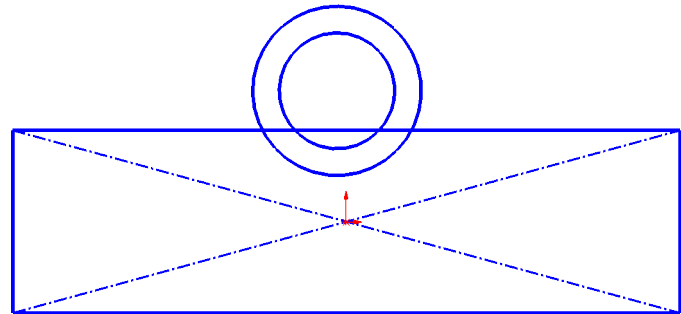

Fig. 3
Step 5. Click **Circle**  (S) on the Sketch toolbar.
Step 6. Sketch **two concentric circles** above Origin , **Fig. 3**.